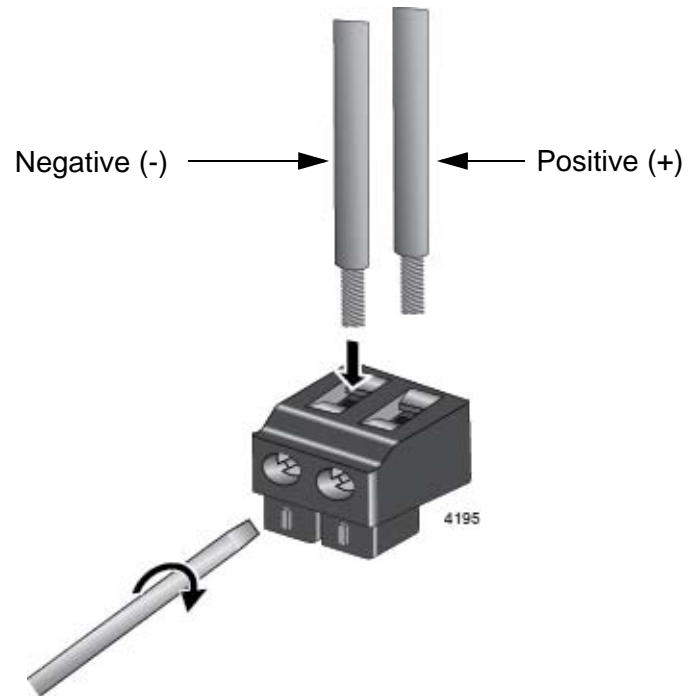

Figure 39. Inserting the Wires into the DC Cable Connector
5. Insert the wires into the connector and tighten the retaining screws to secure the wires. Refer to Figure 39.